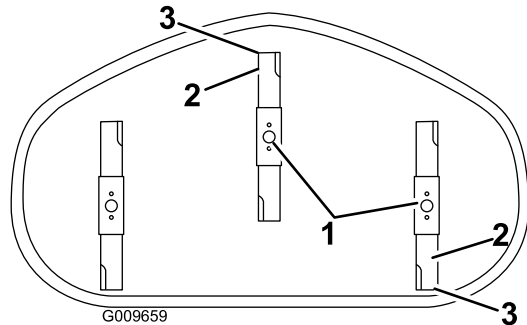

Figure 58
4. Carefully rotate the blades so they are facing front to rear (Figure 58).
5. Measure from the tip of the front blade to the flat surface and the tip of the rear blade to the flat surface (Figure 58). If the front blade tip is not 1/16-5/16 inch (1.6-7.9 mm) lower than the rear blade tip, adjust the front locknut.
8. After adjustment, check the front-to-rear slope again. Continue adjusting the nut until the front blade tip is 1/16-5/16 inch (1.6-7.9 mm) lower than the rear blade tip (Figure 58).